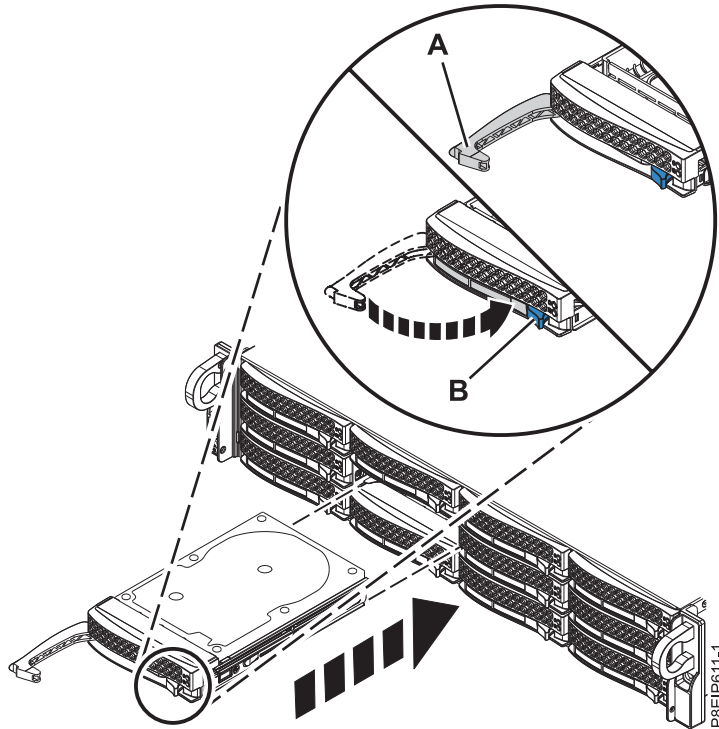

Figure 9. Disk drive lock detail
7. Lock the drive bay handle (A) by pushing in the handle release until it locks at (B) as shown in Figure 9 on page 14.